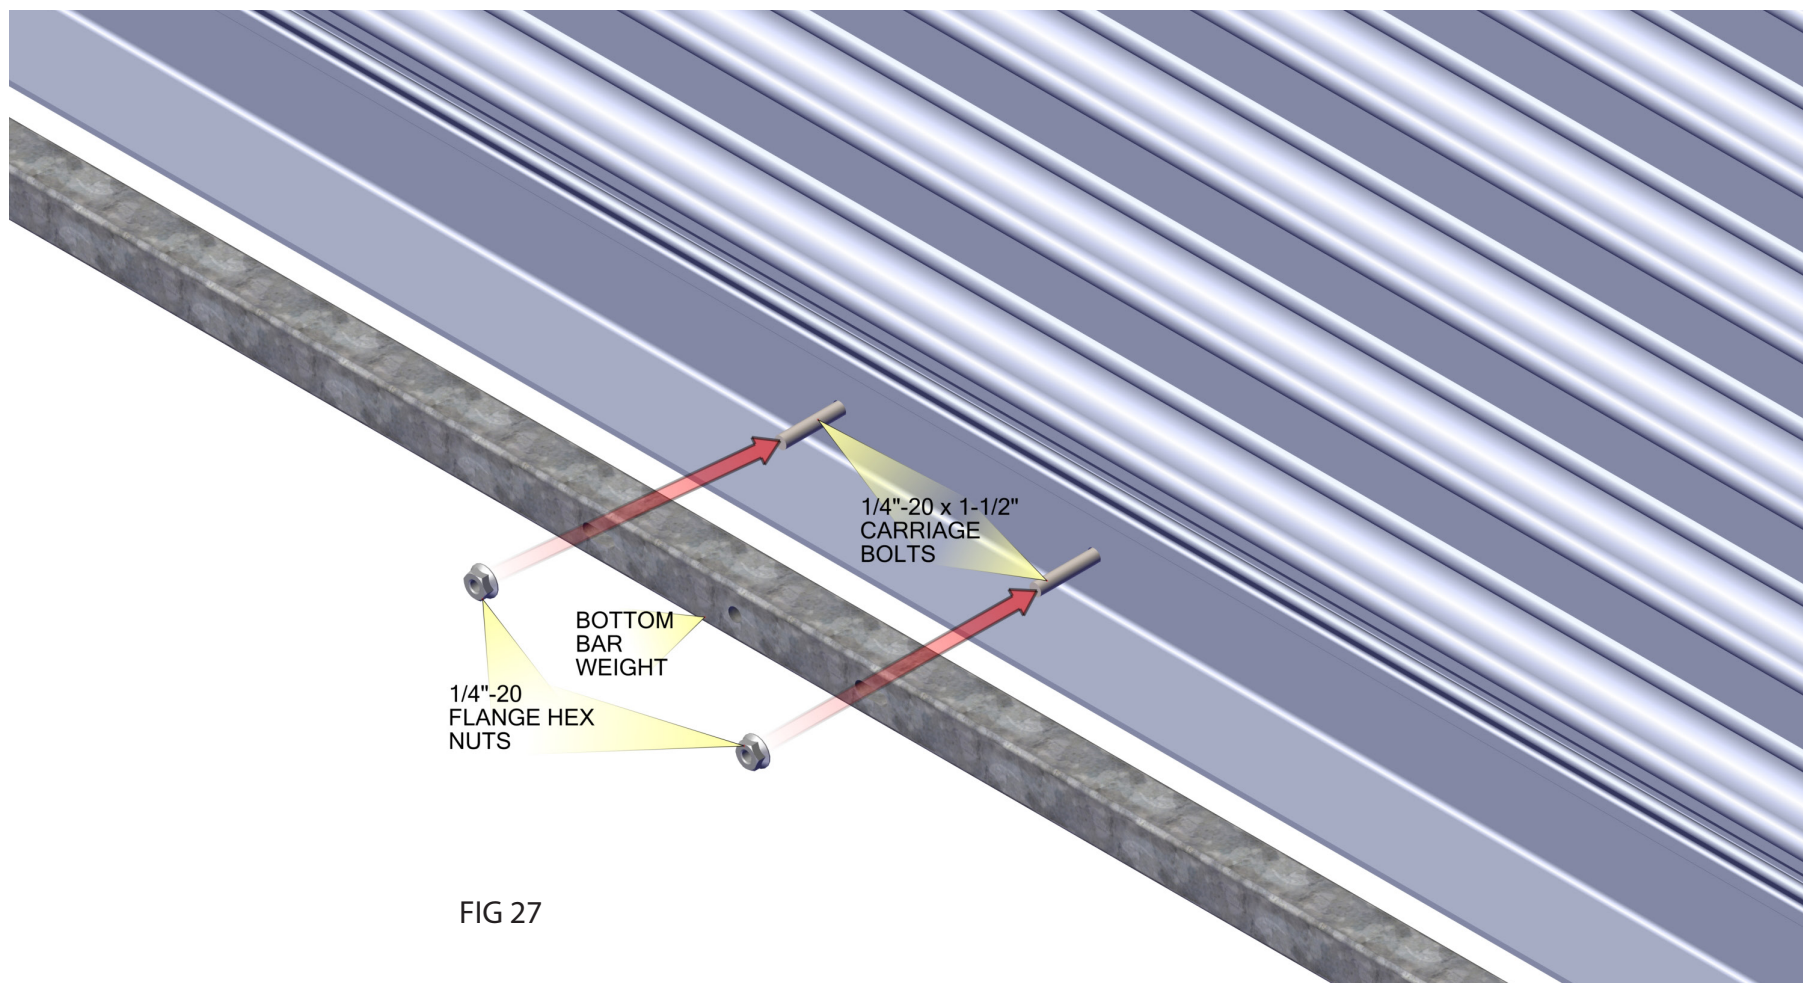

FIG 27
- From inside the door, center the bottom bar onto the bottom angle. Secure the bottom bar weight and the door handle on the opposite side of the curtain using (2) 1/4" - 20 X 1-1/2" carriage bolts. See FIG 27.